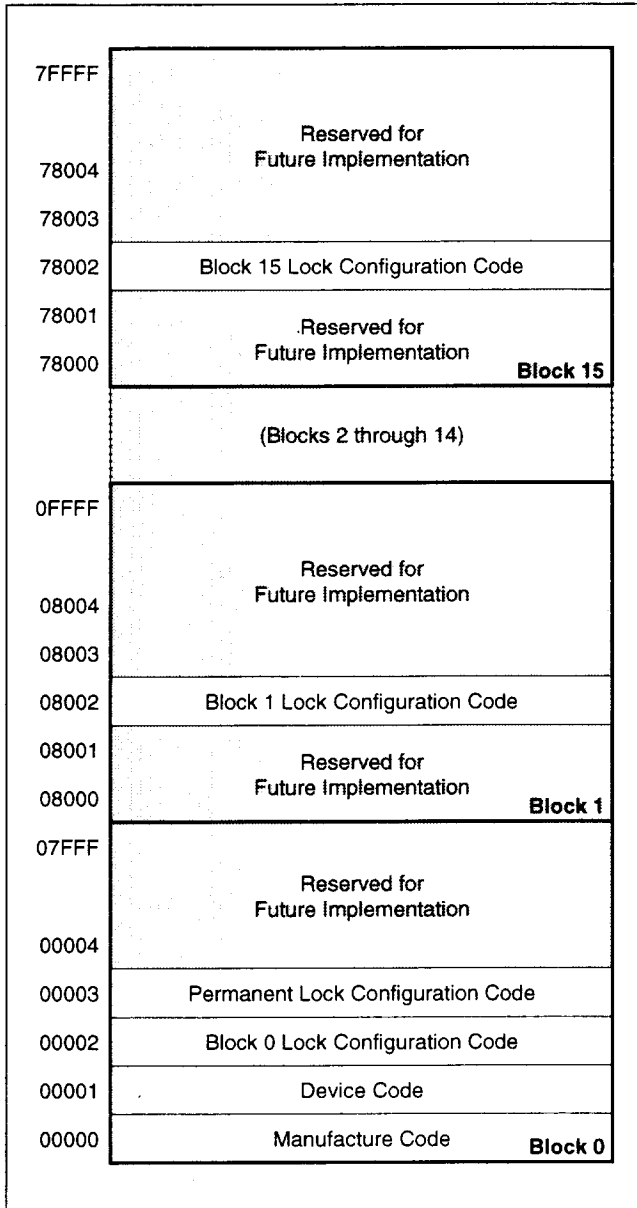

Figure 4. Device Identifier Code Memory Map
The read identifier codes operation outputs the manufacture code, device code, block lock configuration codes for each block, and the permanent lock configuration code (see Figure 4). Using the manufacture and device codes, the system CPU can automatically match the device with its proper algorithms. The block lock and permanent lock configuration codes identify locked and unlocked blocks and permanent lock-bit setting.
IA = Identifier Code Address: see Figure 4.
The identifier code operation is initiated by writing the Read Identifier Codes command. Following the command write, read cycles from addresses shown in Figure 4 retrieve the manufacture, device, block lock configuration and permanent lock configuration codes (see Table 5 for identifier code values). To terminate the operation, write another valid command. Like the Read Array command, the Read Identifier Codes command functions independently of the V_{PP} voltage and RP# can be V_{IH} or V_{HH} . Following the Read Identifier Codes command, the following information can be read:
- X selects the specific block lock configuration code to be read. See Figure 4 for the device identifier code memory map.